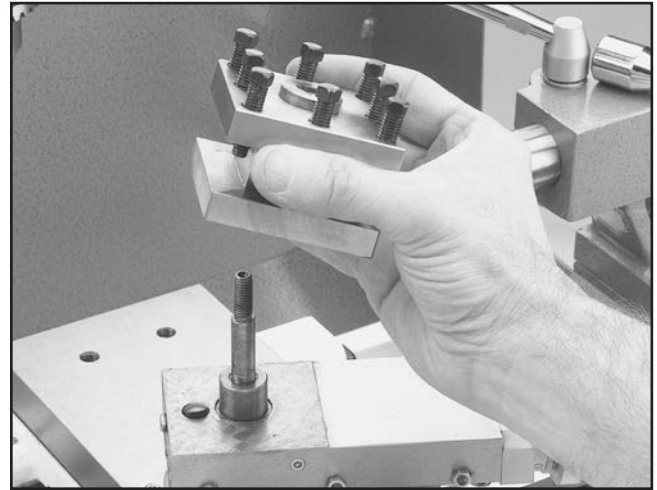

Figure 21. Removing tool post.
2. Pull the installed tool post straight up to remove it from the compound slide, as shown in **Figure 21**.